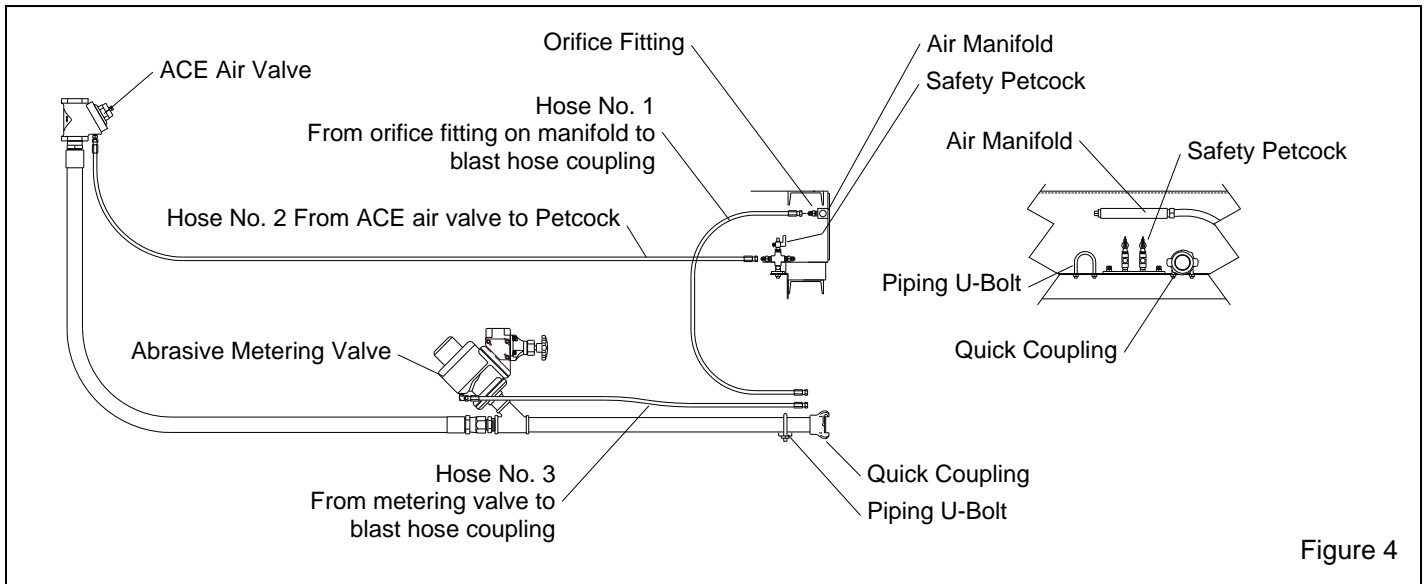

Figure 4
2.3.1 Pneumatic Control Connections, Figure 4. Refer to Sections 2.4 for electric controls.
2.3.1.1 Control hoses on the blast machine are factory installed. Use the illustration in Figure 4 to check each station's hose connections. Check one station at a time, working from left to right to make sure no control lines are switched between one station and another.